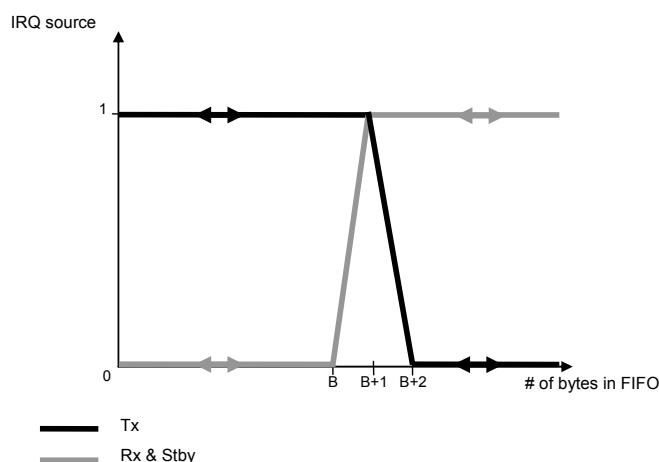

Figure 32: FIFO Threshold IRQ Source Behavior
- Fifo\_threshold: Fifo\_threshold interrupt source's behavior depends on the running mode (Tx, Rx or Stby mode) and the threshold itself can be programmed via MCPParam\_Fifo\_thresh (B value). This behavior is illustrated in Figure 32.